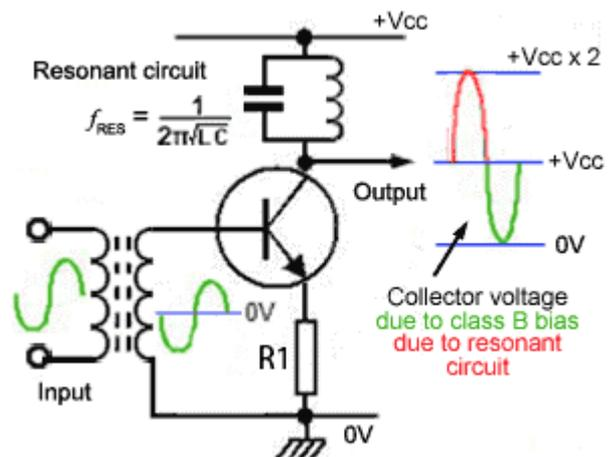

Fig 5.3.2 Class B Radio Frequency (RF) Power Amplifier
The circuit in Fig 5.3.2 shows how class B bias can be used in a radio frequency (RF) output stage. Although the circuit would produce severe distortion as only half of the signal wave form produces a current in the load, because the load in this case is a tuned circuit resonating at the signal frequency, the resonating effect of the tuned circuit 'fills in' the missing half cycles. This method is only suitable at RF, as at lower frequencies the inductors and capacitors needed for the resonant circuit would be too large and costly for most applications. Because of the superior efficiency of class B it is a popular choice for power amplifiers, but to overcome the severe distortion caused by class B, audio amplifiers use a push-pull circuit.